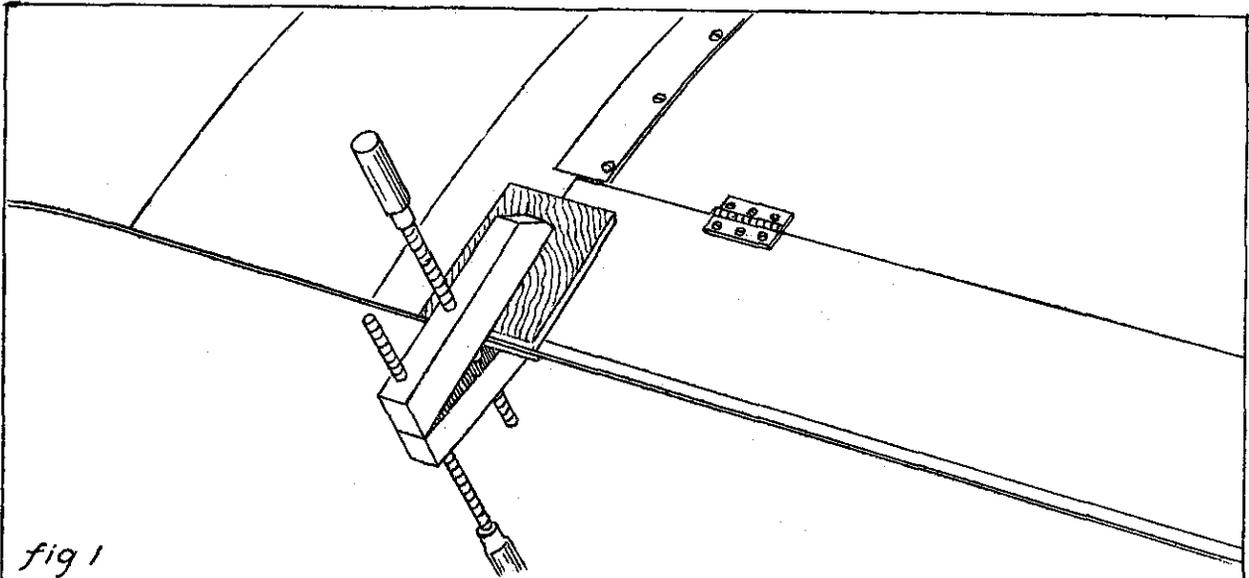

fig 1
1. Clamp both ailerons even with center section of wing by means of boards and clamps, as shown in Figure 1. (The boards can be bolted together by means of 3/16" bolts if no clamps are available.)
Attach. Figures 1, 2, and 3.